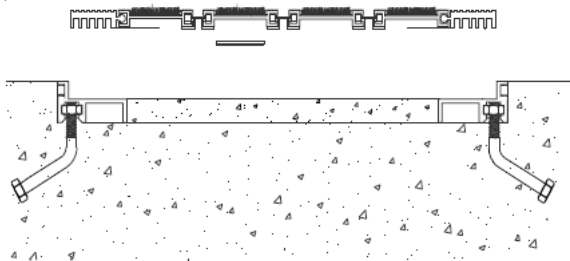

Figure 10
**STEP 17.** Select the flexible lock strips. Peel the backing from the flexible strip portion of the fastener, and press the strip onto the bottom of the mat tread (see Figure 10). Ensure that the strip will not interfere with the frame.